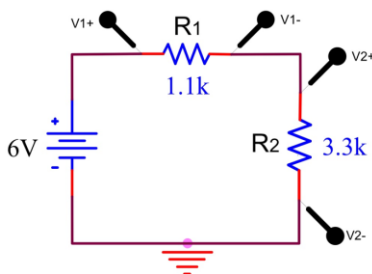

Figure 1.11
4. Connect the 6V power supply to R_1 and R_2 as depicted in Figure 1.11. Measure and record V_1 and V_2 .